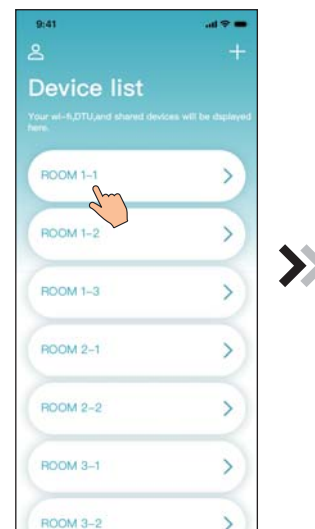

Fig.18 Device management interface
7. After WIFI and DTU bonding is done, and jump back to My Device(Fig. 18).